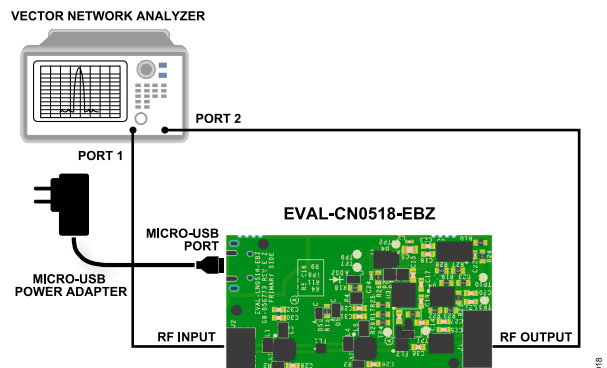

Figure 18. S-Parameter and Noise Figure Test Setup
**Figure 18** shows the functional block diagram for the S-Parameter and noise figure test setup.